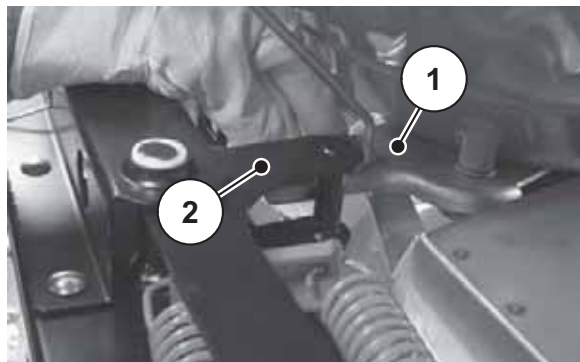

Figure 9.6: Pull the metering slide to the stop
18. Pull the metering slide [1] by hand to the stop [2] (see figure 9.6).